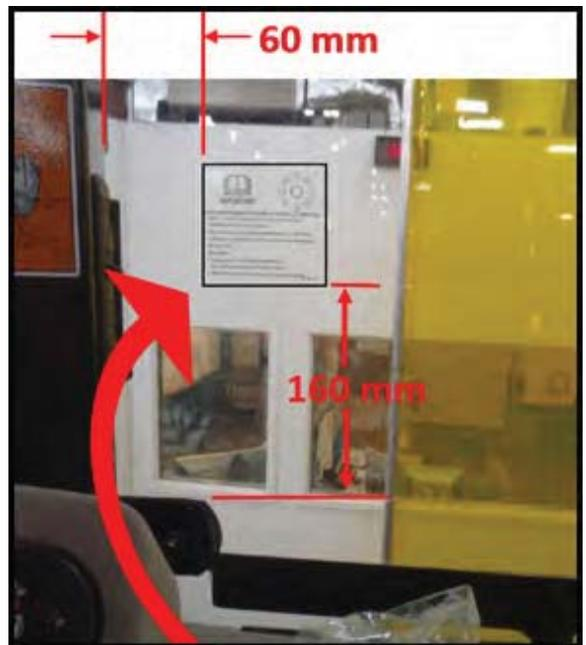

Figure 2 – R/H Window Decal
2. Apply decal MD #166575 (170 ft-lbs) in the same location. Refer to the approximate dimensions in Figure 2.